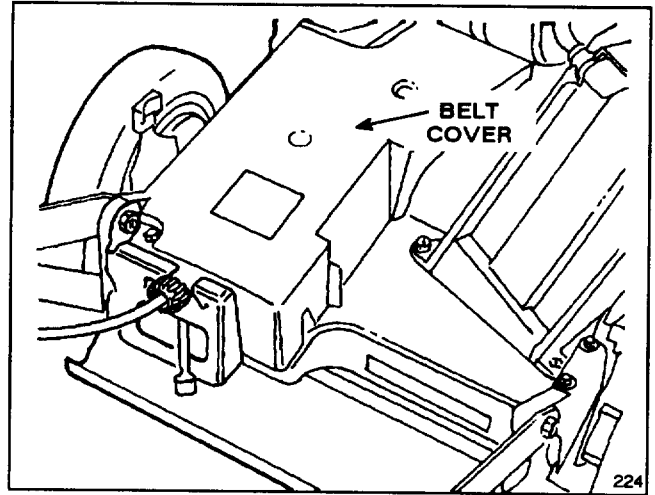

Figure 32
7. Remove bolts securing belt cover (Fig. 32) to mower housing. Lift off cover and brush out all debris from belt area. Reinstall belt cover.